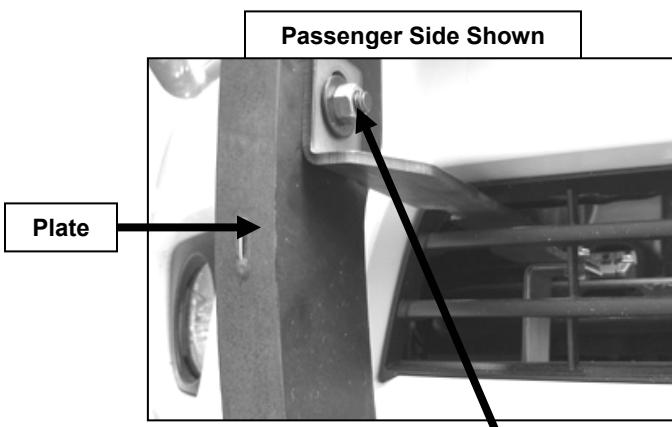

Figure 4
9. Once the bottom brackets are loosely installed, proceed to attach Grille Guard to Top Brackets by using the included (2) 10-1.50mm Button Head Bolts, (2) 10mm Nylock Nuts, and (2) 10mm Flat Washers (Figure 4). Do not tighten at this time.